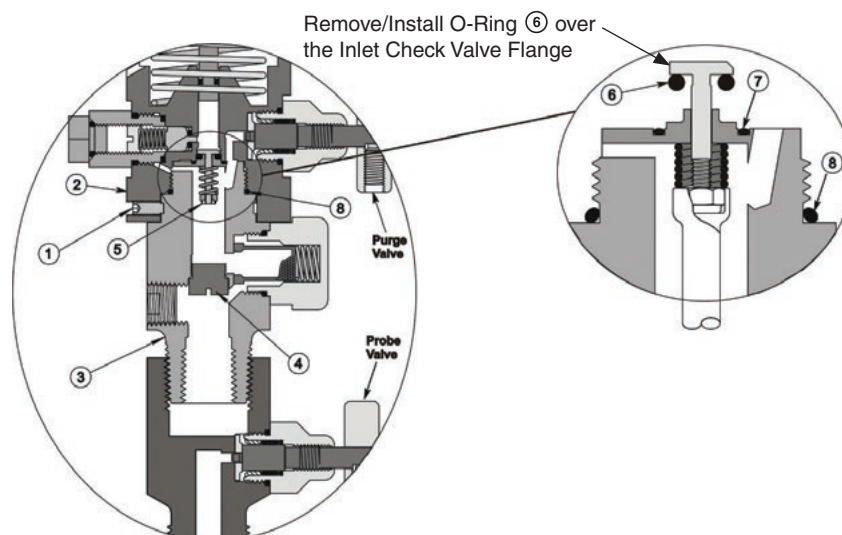

Figure 33: Inlet Check Valve O-Ring Replacement
1.6 Inspection/Replacement of Inlet Check Valve O-Ring (refer to Figure 33)